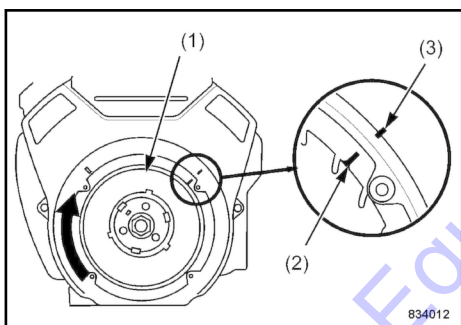

Fig. 175
1. Turn the flywheel (1) ↪ Fig. 175 clockwise until the marks (2, 3) are in line.